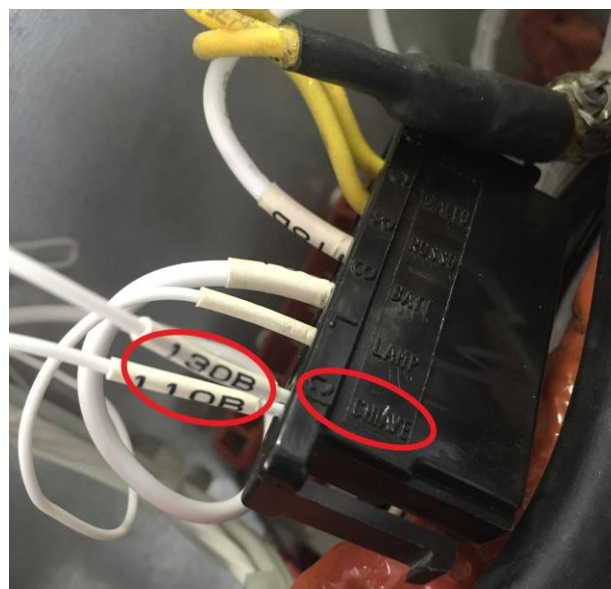

Fig. 28: Terminal block
- 26) Insert the connected wires 130B and 110B into the terminal block at position C (See Fig. 28)